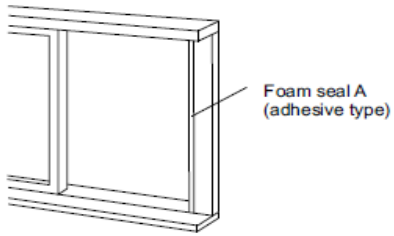

Fig. 14
2. Cut the foam seal (adhesive type) to the proper length and attach it to the bottom of the door / window. Fig. 14.